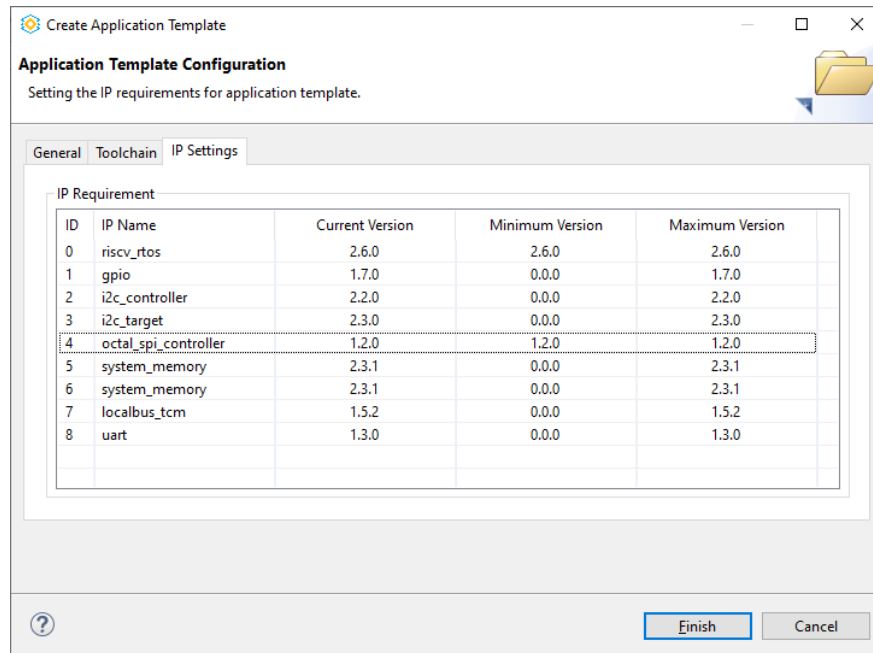

Figure 3.8. Create Application Template – IP Settings
- Under the IP Settings tab (Figure 3.8), The Lattice Propel SDK tool generates a filter according to your settings. This means if you create a C/C++ project using this C/C++ template, the corresponding SoC project should include the versions of IPs shown in the IP-related settings under this tab. Be careful when modifying the IP-related settings on other versions of Lattice Propel SDK.